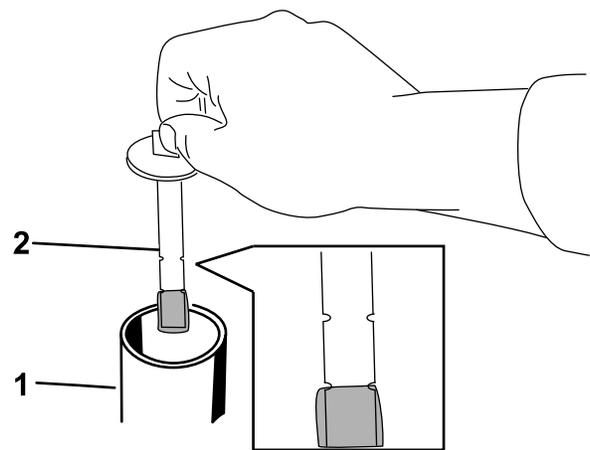

Figure 81
7. Remove the filler-neck cap and check the fluid level on the dipstick (Figure 81).